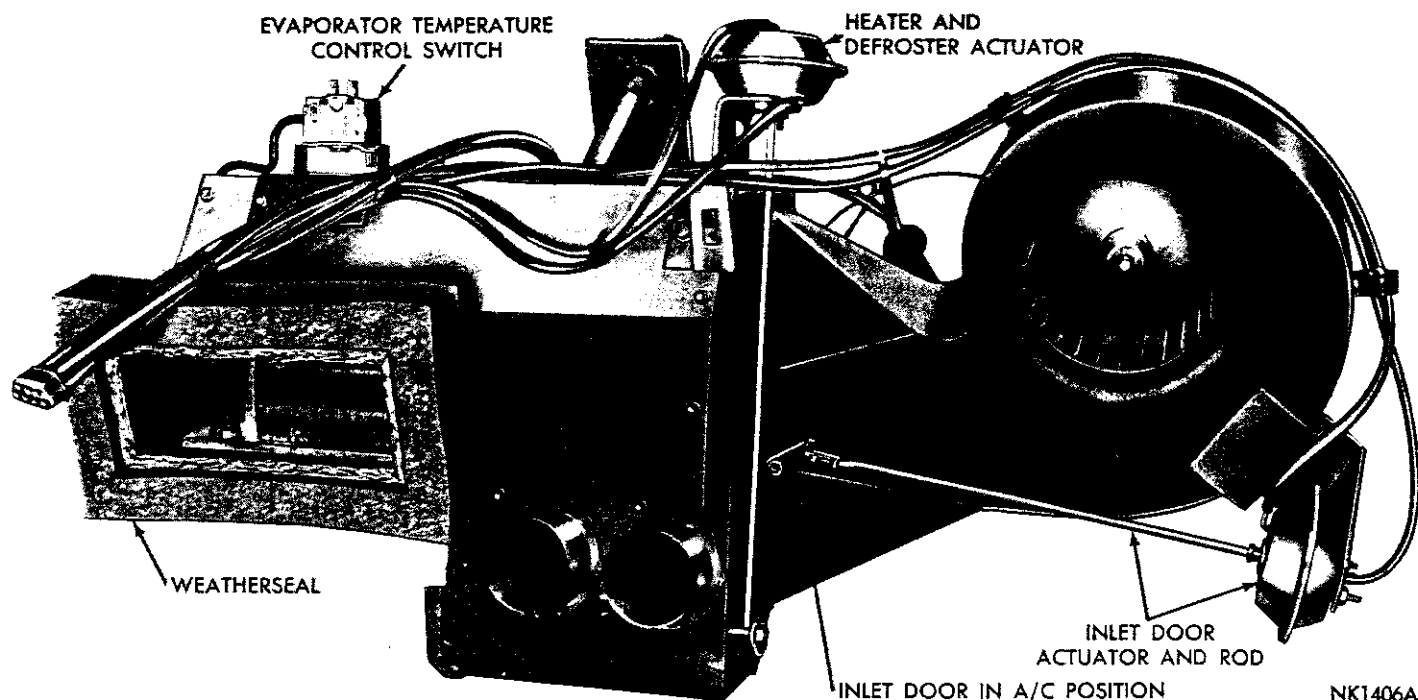
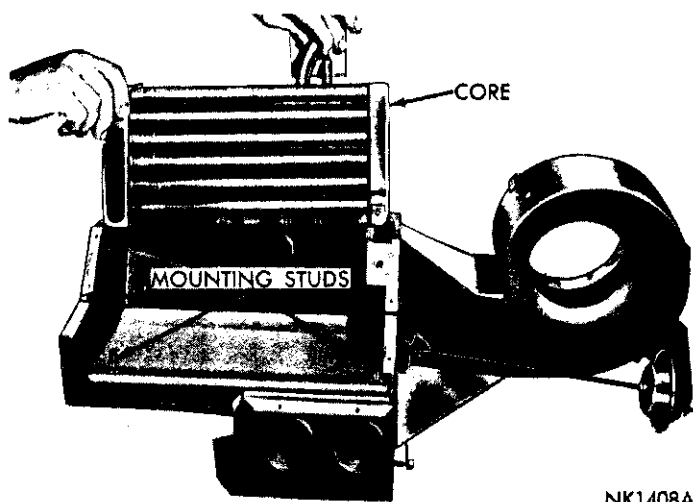
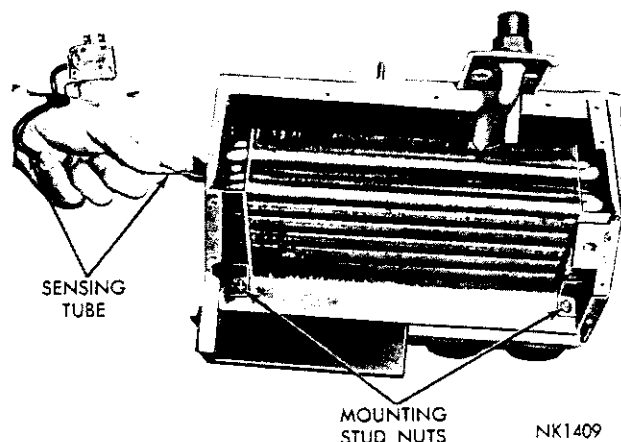

Fig. 13—Evaporator Assembly Removed—Typical
Fig. 15—Removing Evaporator Core—Typical
Fig. 16—Installing Capillary Sensing Tube
(1) Disconnect elbow assembly and suction lines from evaporator. Use two wrenches to loosen each of these connections. Cap all the refrigerant openings to prevent entrance of dirt and moisture.
(2) Disconnect blower motor wires and air tube.
(3) Disconnect actuator hoses.
(4) Remove mounting stud nuts and remove evaporator assembly with blower motor as a single unit (Fig. 13).
(5) Remove defroster actuator, evaporator temperature control switch, and carefully withdraw the capillary sensing tube.
(6) Remove the weatherseal around the air outlet opening, and remove the attaching cover screws and cover.
(7) Remove the attaching stud nuts and remove evaporator from case (Fig. 15).
the case into the evaporator to the full depth (Fig. 16). Position evaporator temperature control switch and secure with attaching screws (Fig. 13).